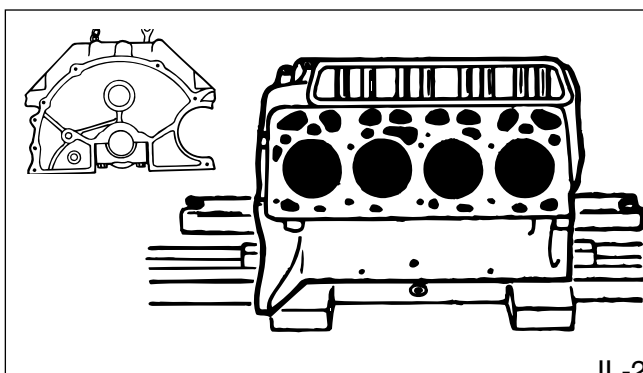

FIGURE 3-13, Position Riser Blocks
- If main bearing centerline is above pan rails, turn riser blocks 90 degrees to flat position, so that pan rails sit on flat part of risers (see Figure 3-13).